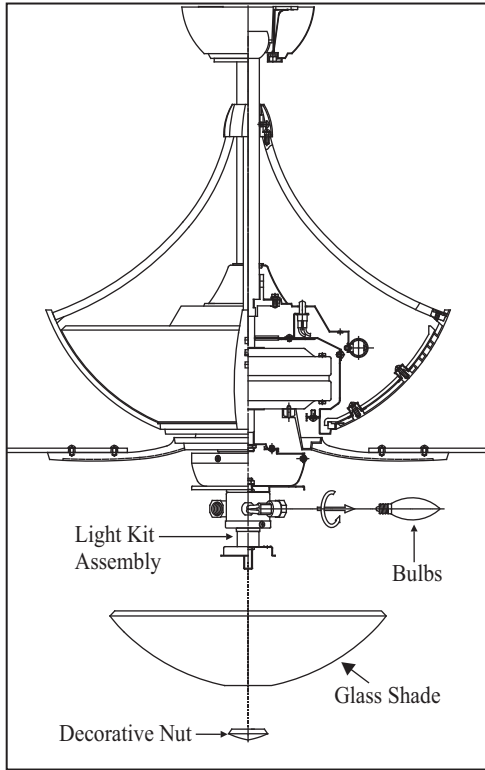

Figure 19
4. Install 3 x 40W candelabra bulbs (included). (Fig. 19)
5. Remove the decorative nut from the light kit. Place the glass shade over the light kit stem, secure with the decorative nut. Do not overtighten. (Fig. 19)